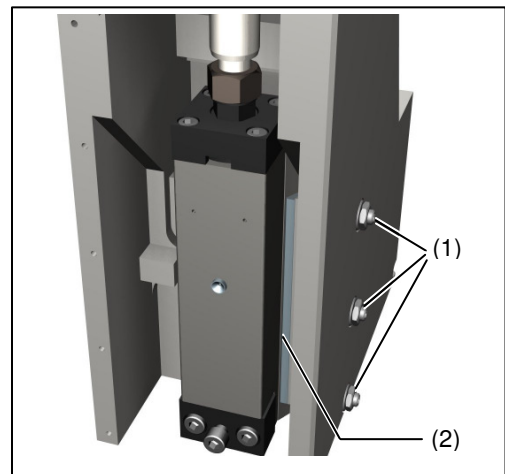

Fig. 15 Readjust adjustment gib
- ▶ Loosen the three nuts on the right side of the guide unit (**Fig. 15**, Pos. 1), but do not completely remove.
- ▶ By turning in of the threaded pins straighten adjustment gib evenly, to ensure that it has the same play at the top and at the bottom (**Fig. 15**, Pos. 2).
- ▶ Retighten the three nuts (**Fig. 15**, Pos. 1).